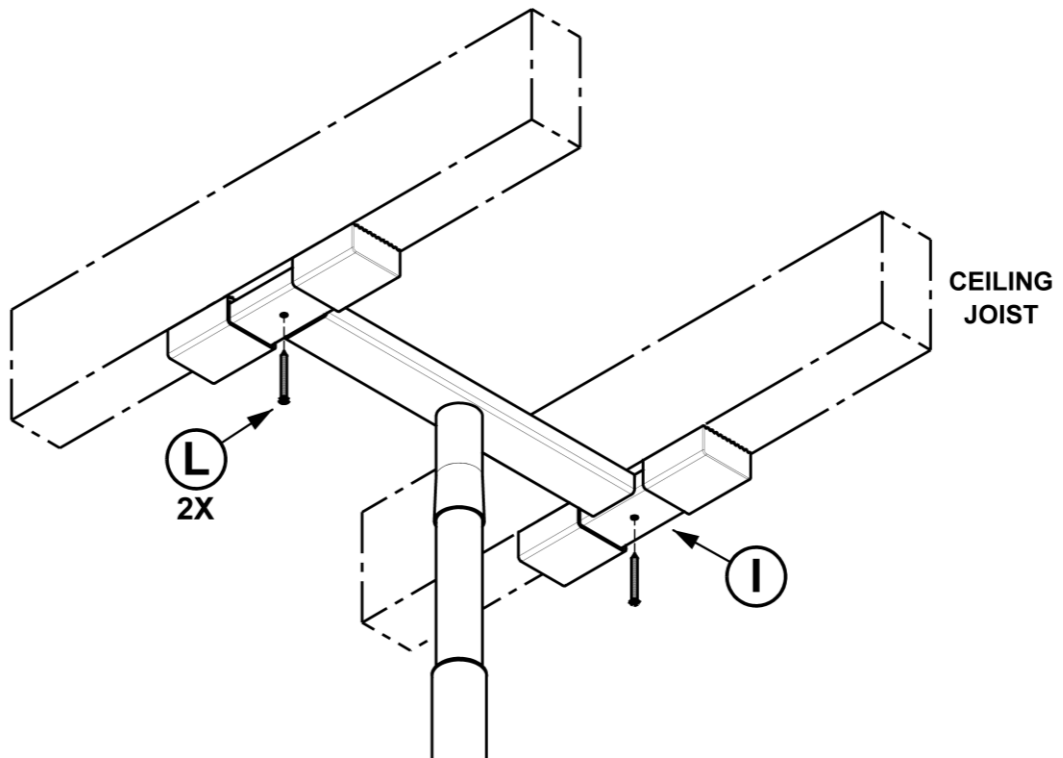

FIGURE 6
6. **OPTIONAL:** Use provided Screws L to fix Top ① to the ceiling ensuring both Screws L go into the Ceiling Joists as shown in *FIGURE 6*.